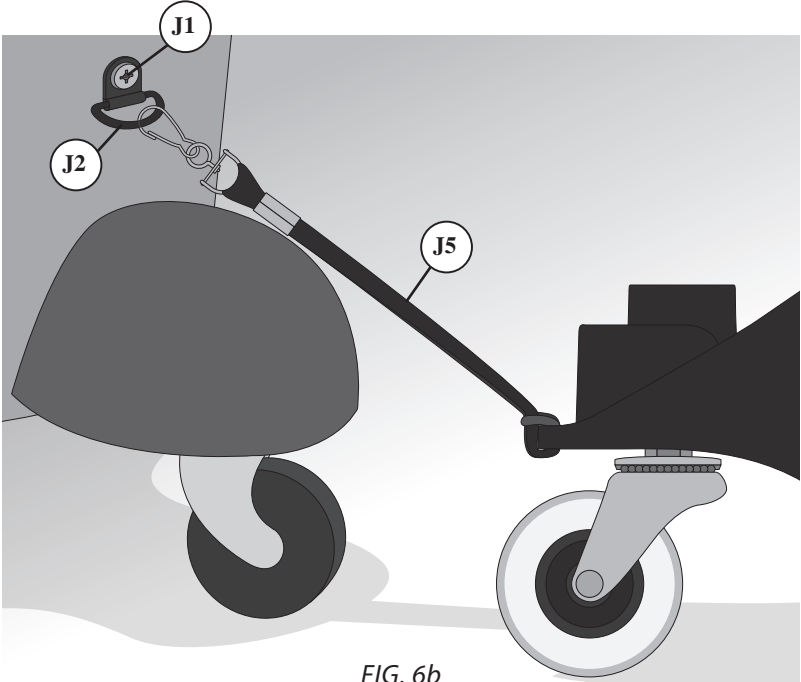
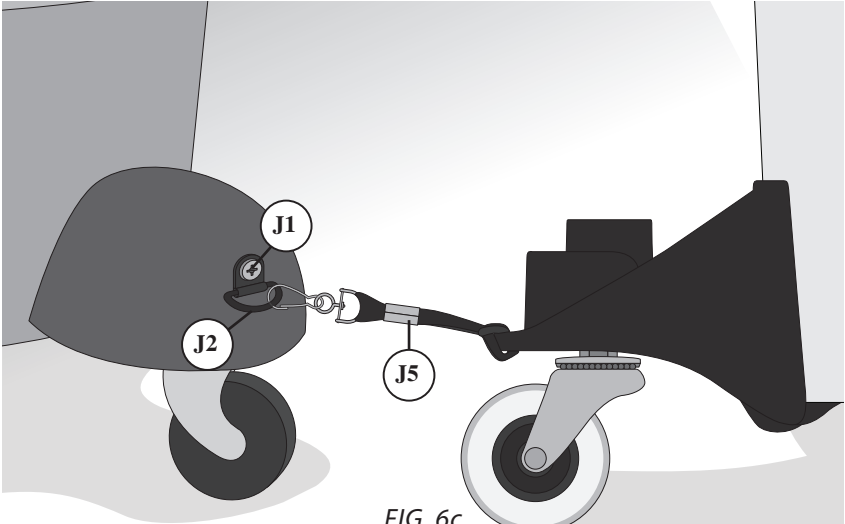

FIG. 6b
FIG. 6c
- b. Attach the D ring (J2) to the vacuum with the Sheet Metal Screw. (J1) Then loop the Lanyard (J5) around the slot on the Caster Mount and through itself. Finally, clip the Lanyard to the D ring [FIG 6b] [FIG 6c].